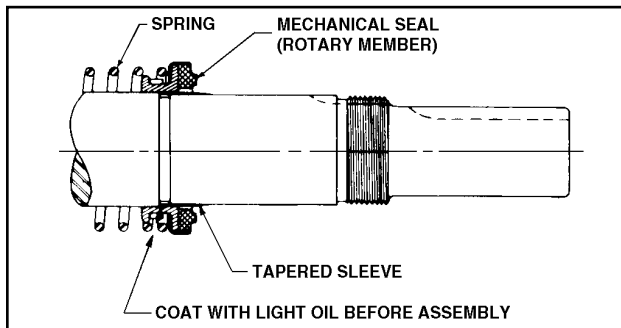

Figure 28
4. Place tapered installation sleeve on shaft. Refer to Figure 28. Sleeve is furnished with GG, AS, AK, and AL replacement mechanical seals. Coat rotor shaft, tapered installation sleeve, and inner diameter of mechanical seal rotary member with a generous amount of refrigeration oil. Petrolatum may be used but grease is not recommended.